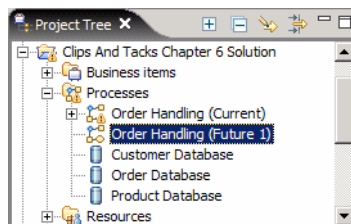

Figure 6-7 Renaming the Order Handling (Future 1) process
- ▶ Rename the process by selecting the copied process and *Rename*. Enter Order Handling (Future 1) as new name (Figure 6-7).